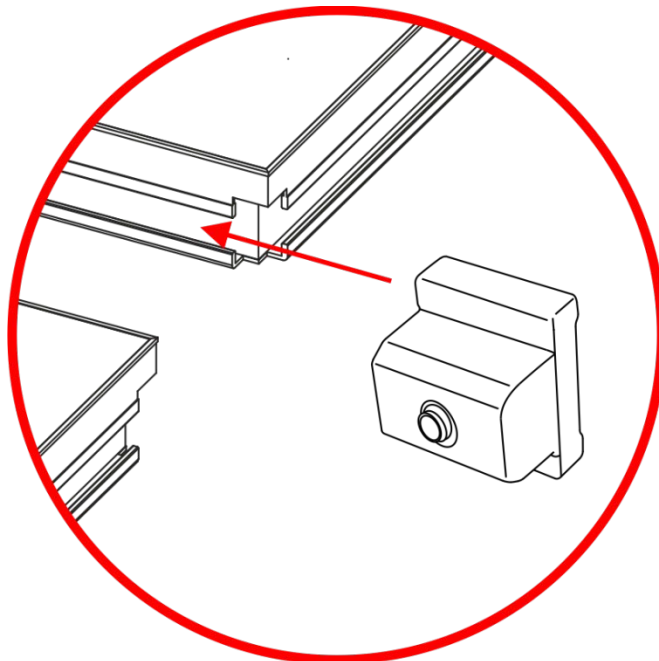

Fig. 06
- 02) In order to level the two sets, insert the Spider Stage Self-leveling Insert (**70637**) in between the two stage plates (see Fig. 06)